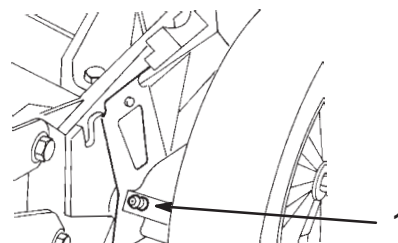

Figure 22
1. Wipe the grease fittings on the rear wheel height adjustment levers with a clean rag (Fig. 22).